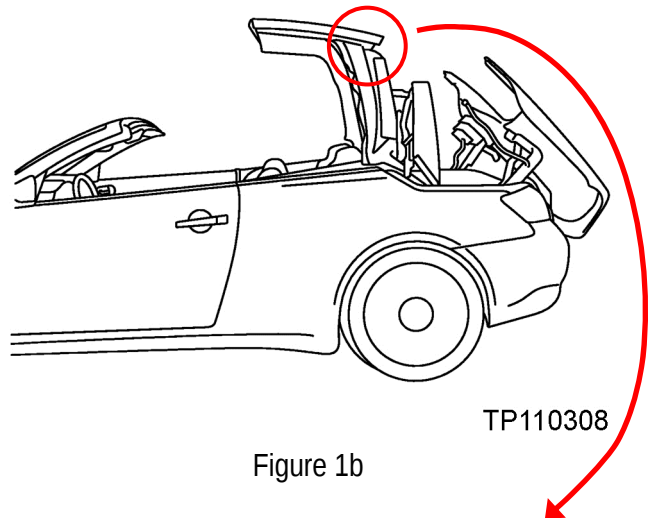

Figure 1b
1. Partly open the retractable hard top (roof) as shown in Figure 1b.